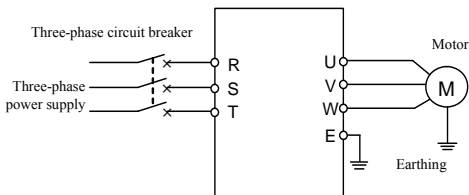

Figure 4-2 Simple Running Wiring Diagram
- ① Connect wires as per Figure 4-2;
- ② Switch on the power supply after confirming that the wires are connected correctly, and the inverter will firstly display “PoFF” and then “0”.
- ③ Confirm that the frequency setting channel is at the digit setting model ([F0.00] = 0);
- ④ It is required to set parameter [F0.12] and [F0.13] according to the rated nameplate data on the inverter's dragging motor.
- ⑤ Press  key to start the inverter and the inverter will input 0 frequency, displaying “0.0”.
- ⑥ Press Up of  key to increase set frequency, and the output frequency of the inverter will increase and the motor revolution will also increase.
- ⑦ Check if the motor run normally. In case of any abnormality, stop running the motor immediately and disconnect power supply. Do not run the motor until fault cause is found.
- ⑧ Press Down on the  key to decrease set frequency.
- ⑨ Press  key again to stop running and cut off the power supply.